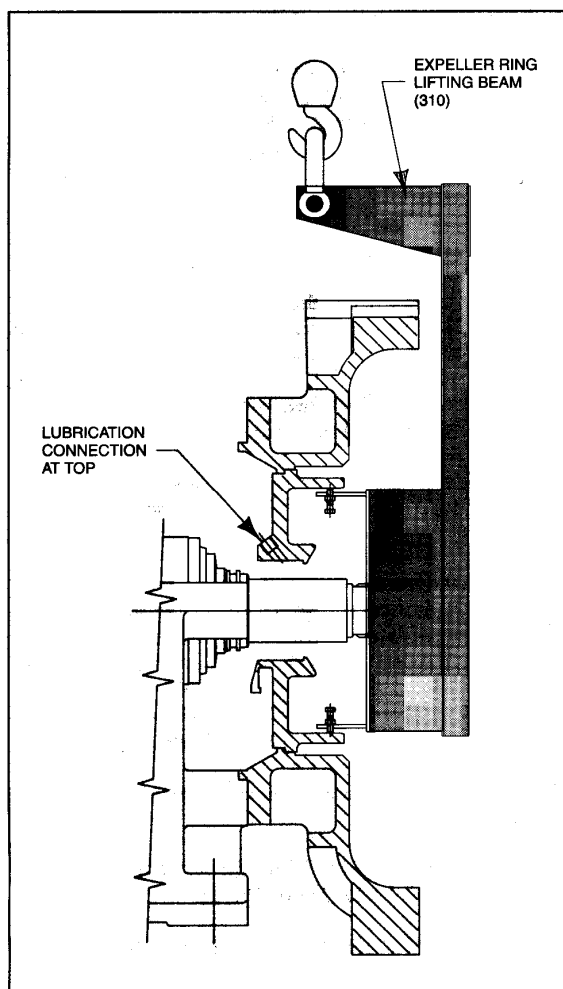

Figure 5-11 Use of Expeller Ring Lifting Beam
- a. Slide SHAFT SPACER (179) onto the shaft up to the labyrinth.
- b. Fit another SHAFT SLEEVE O-RING (109) onto the shaft and slide it up to the flat face of the spacer.
2. Join the three (3) segments of RELEASE COLLAR (239) with its socket head cap screws and tighten securely. Complete Release Collar installation and disassembly instructions are covered on pages 5-9 and 5-10 of the manual. Fit RELEASE COLLAR (flat face out) onto the shaft and slide it up to labyrinth.
3. Slide SHAFT SLEEVE O-RING (109) onto the shaft up to release collar. Apply anti-seize lubricant to exposed shaft, including threads.
4. Slide SHAFT SLEEVE (075) onto the shaft up to the release collar
7. Attach EXPELLER RING LIFTING BEAM (310) to EXPELLER RING (029) on opposite side of lugs using three jacking screws provided, and insure that the water inlet in the expeller ring is in line with the lifting beam. (Refer to Figure 5-11.)
7. Attach EXPELLER RING LIFTING BEAM (310) to EXPELLER RING (029) onto the opposite side of lugs using three jacking screws provided, and insure that the water inlet in the expeller ring is in line with the lifting beam. (Refer to Figure 5-11)
- c. Assemble GLAND (044) halves over shaft sleeve with gland neck toward expeller ring, insert GLAND CLAMP BOLTS (126), and fully tighten. Push into the expeller ring to compress packing rings. Insert GLAND BOLTS (045) and tighten nuts until snug.
10. Fit second SHAFT SLEEVE O-RING (109) and push it into recess in end face of shaft sleeve.
11. Place EXPELLER (028) on shaft, slide over shaft spacer, and press up to shaft sleeve.
1. Fit a SHAFT SLEEVE O-RING (109) into the labyrinth groove.
2. Join the SPLIT RELEASE COLLAR (239) with its socket head cap screws and tighten securely. Complete Release Collar installation and disassembly instructions are covered on pages 5-9 and 510 of the manual. Fit collar (conical face out) onto the shaft and slide up to labyrinth (omit this step for the 6/4 SHH). Apply anti-seize lubricant to exposed shaft, including threads.
3. Slide SHAFT SLEEVE SPACER (179) onto the shaft and slide up against labyrinth.
4. Fit a second SHAFT SLEEVE O-RING (109) onto the shaft and slide up against the shaft sleeve spacer.
5. Slide SHAFT SLEEVE (075) onto the shaft and up against the shaft sleeve spacer.
7. Attach EXPELLER RING LIFTING BEAM (310) to EXPELLER RING (029) onto opposite side of lugs using three jacking screws provided, and make certain the water inlet in the expeller ring is in line with the lifting beam. (*Refer to Figure 5-11*)
- c. Assemble GLAND (044) halves over shaft sleeve with gland neck toward expeller ring, insert GLAND CLAMP BOLTS (126), and fully tighten. Insert GLAND BOLTS (045) and tighten nuts until snug.
11. Place EXPELLER (028) onto the shaft and press up to the shaft sleeve.